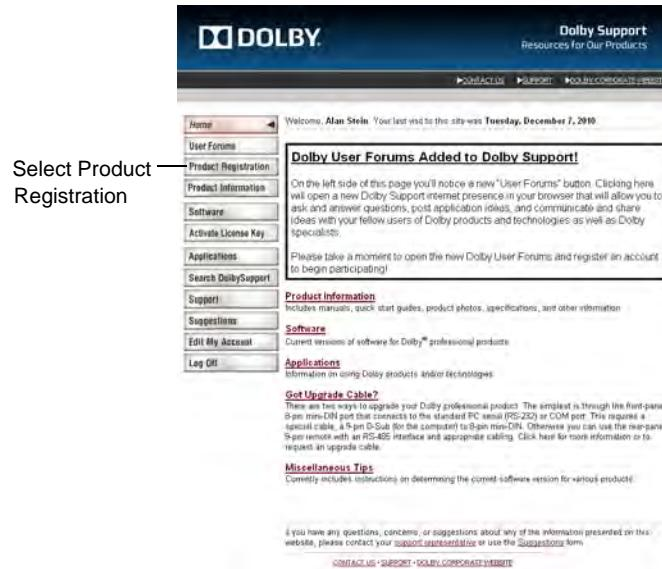

Figure 2-23 Select Product Registration on Dolby Support Homepage
30. Once logged in, select **Product Registration** on the Dolby Support homepage, as shown in Figure 2-23.